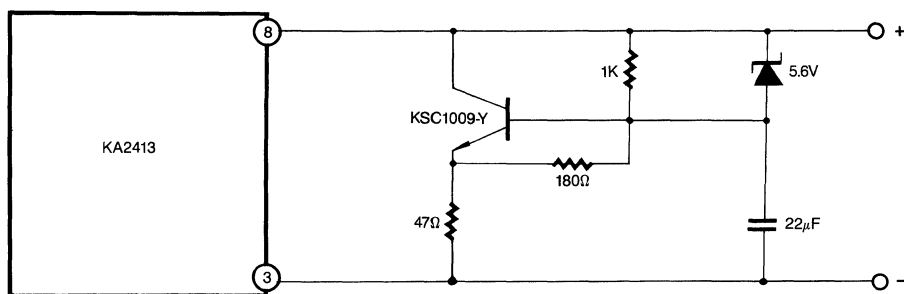

Fig. 4
- In application where a DTMF generator directly powered from the telephone line is wanted (the generator is not working in parallel with any kind of speech network), KA2413 can be used with a DC regulator as described in fig 4.